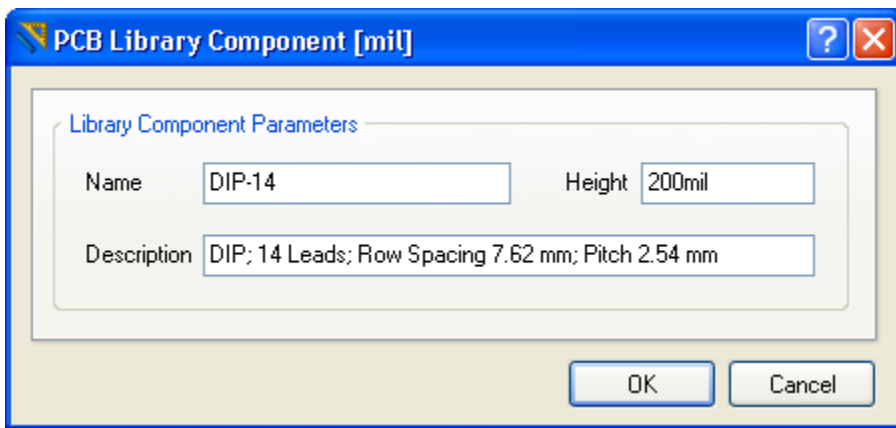

Figure 54. DIP-14 component details
1. In the **PCB Library** panel, double-click the **DIP-14** entry to open the *PCB Library Component* dialog (Figure 54), which details the name, height and description. The height of the component is important here as we need to make the 3D body representative of the actual height.